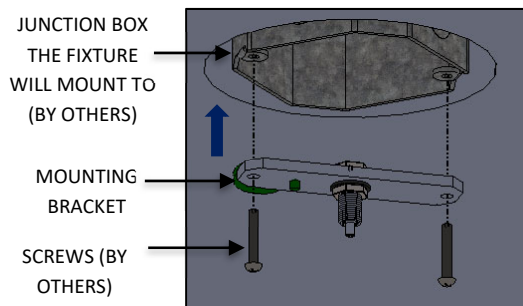

FIG. 16 – MOUNTING BRACKET
- Assemble the MOUNTING BRACKET ASSEMBLY to the JUNCTION BOX the fixture will mount to (by others) with screws (by others) as shown in FIG. 16 below.